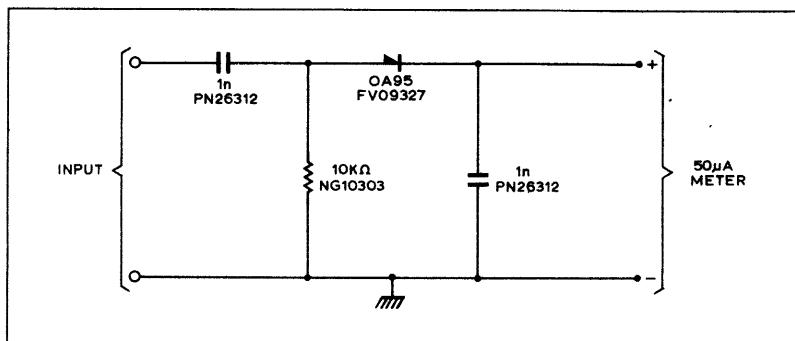

Fig. 4 Diode Probe
2. H.F. Valve Voltmeter, or a Diode Probe (Fig. 4, used with an AVO 8 or Pye Test Meter, type TM1). (See Fig. 10).